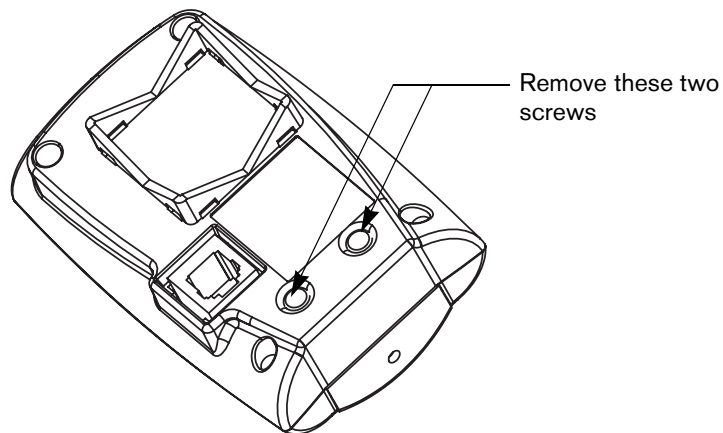

Figure 2: Remove screws holding headphone jack
3. Remove the two screws at the bottom of the receiver with a Phillips-head screwdriver. See Figure 2.